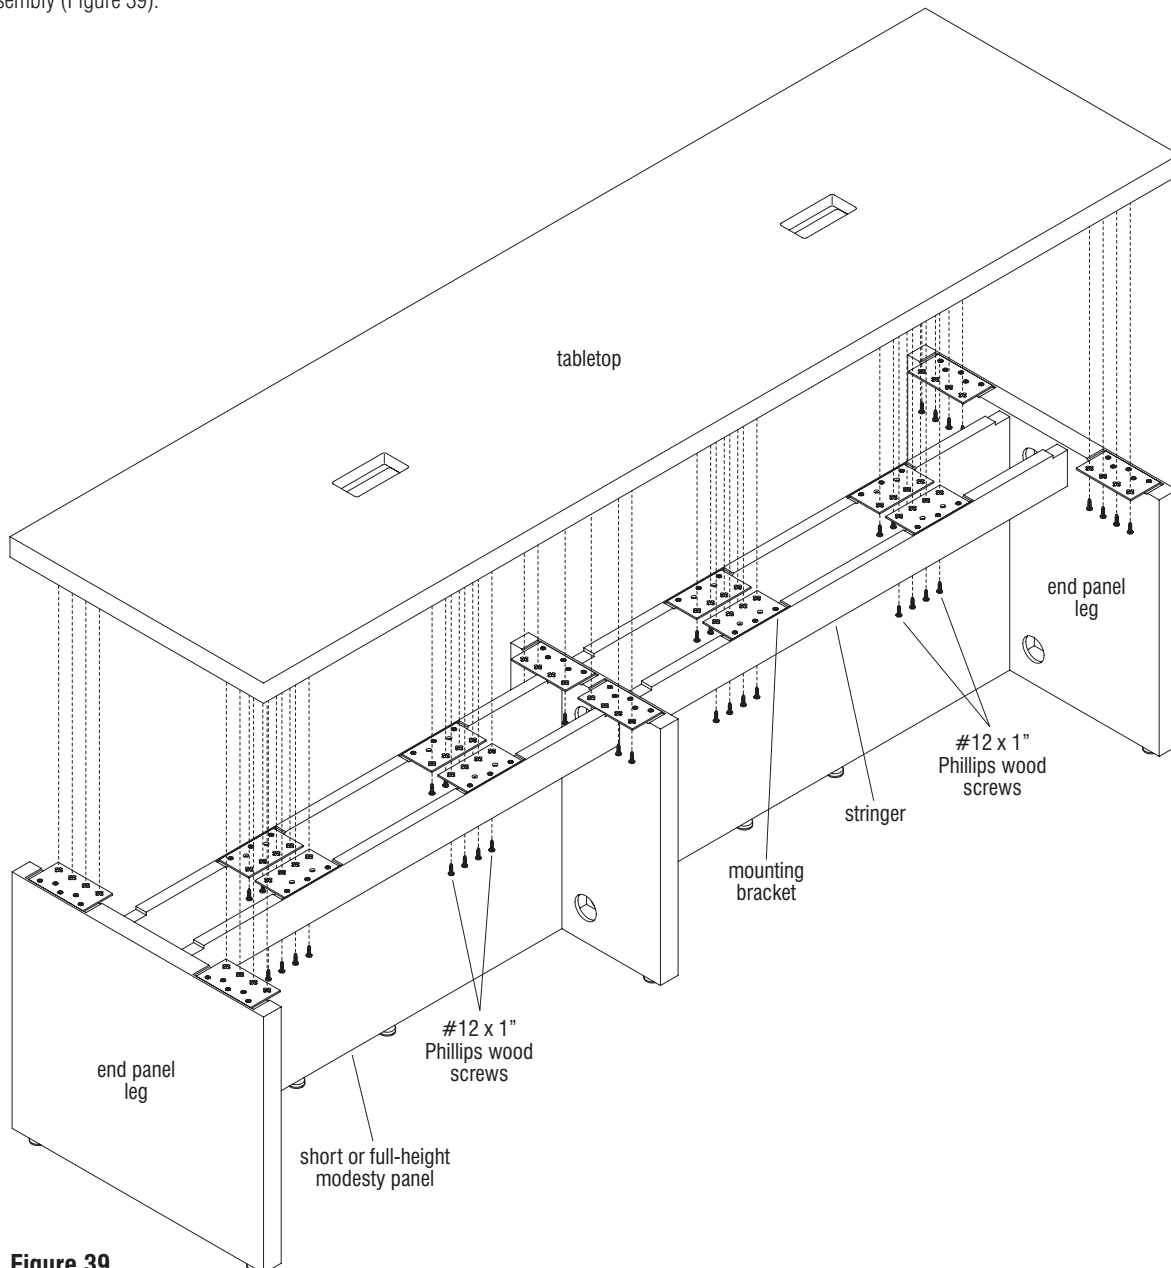

Figure 39
1. With the assistance of two or more people, carefully position the tabletop on the base assembly (Figure 39).
holes on the middle panel leg may be blocked. If the access holes are blocked, secure the mounting bracket to the table using three #12 x 1" Phillips wood screws. Do not over-tighten screws which could strip out the pre-drilled holes. Take care to securely install all available brackets to the tabletop using the full amount of the required screws (Figure 39).